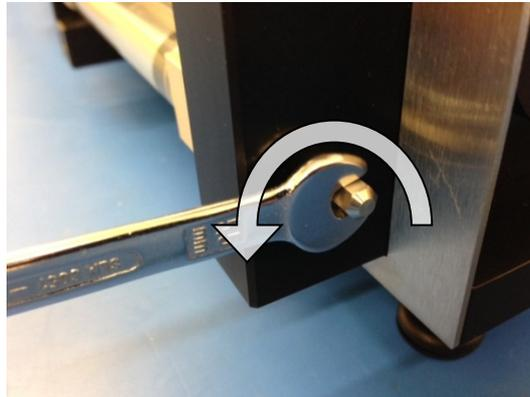

Figure 12 - Loosen the cylinder adjusting screw (right hand piston shown)
- 7.2.5 Using the 5mm spanner supplied in the tool kit, loosen and unscrew the cylinder adjusting screw that pushes the transfer port against the glass tube as shown in Figure 12.